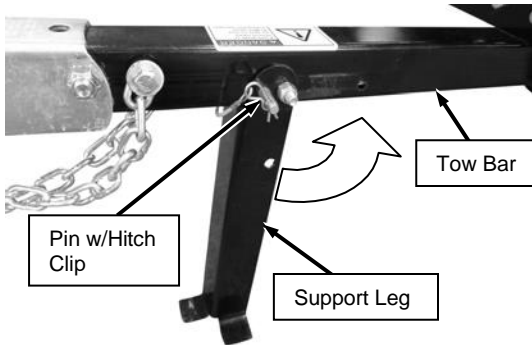

Figure 28
2. Pull the Hitch Clip from the Pin and pull the Pin from the Support Leg and Tow Bar (**Figure 28**).